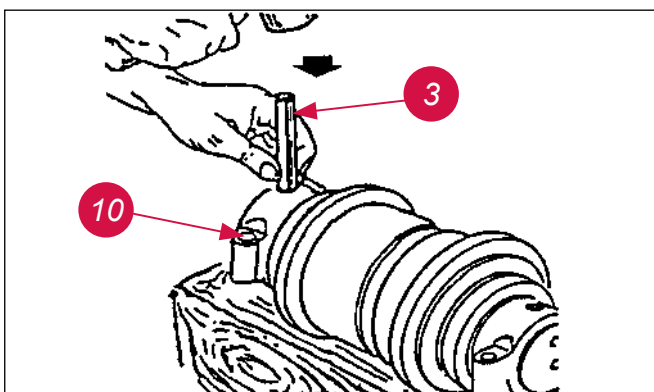

Fig. TSR-10 Roll Pin – Install
6. Install other bracket (2) onto shaft, align holes as in step 4, place a wood block under bracket and drive in roll pin (3). Fig. TSR-10.